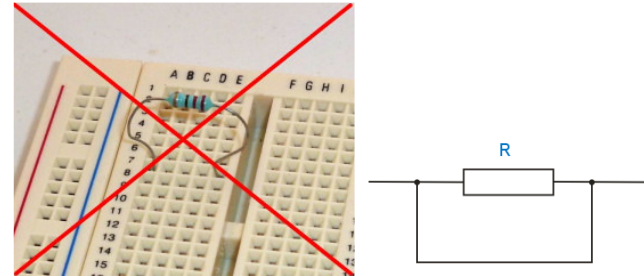

Figure 6: wrongly connected component, in short-circuit, and the equivalent schematic
**Remark:** never place both terminals of a component in 2 connection points from the *same* group of 5 holes, which would mean to short-circuit the component! (see figure 6)